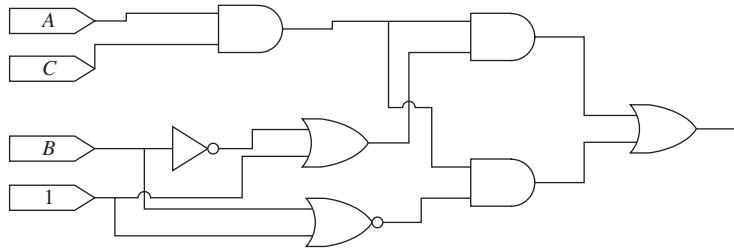

FIGURE P10.49 Logic circuit for Problem 10.49.
10.49 (H) Write the logic expression for the circuit shown in Figure P10.49. Then, simplify the expression and draw the logic circuit that corresponds to the expression.